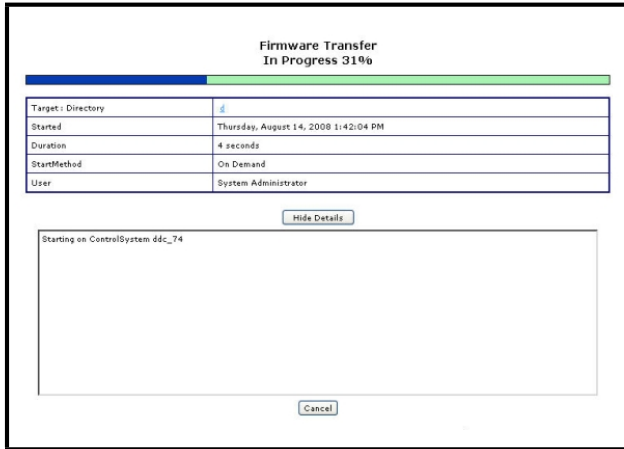

Figure 6-30 - Firmware Transfer Status Page
- Once the Firmware Transfer has been initiated, the *Activity Status* page will open (*Figure 6-30*) and show the progress of the activity: